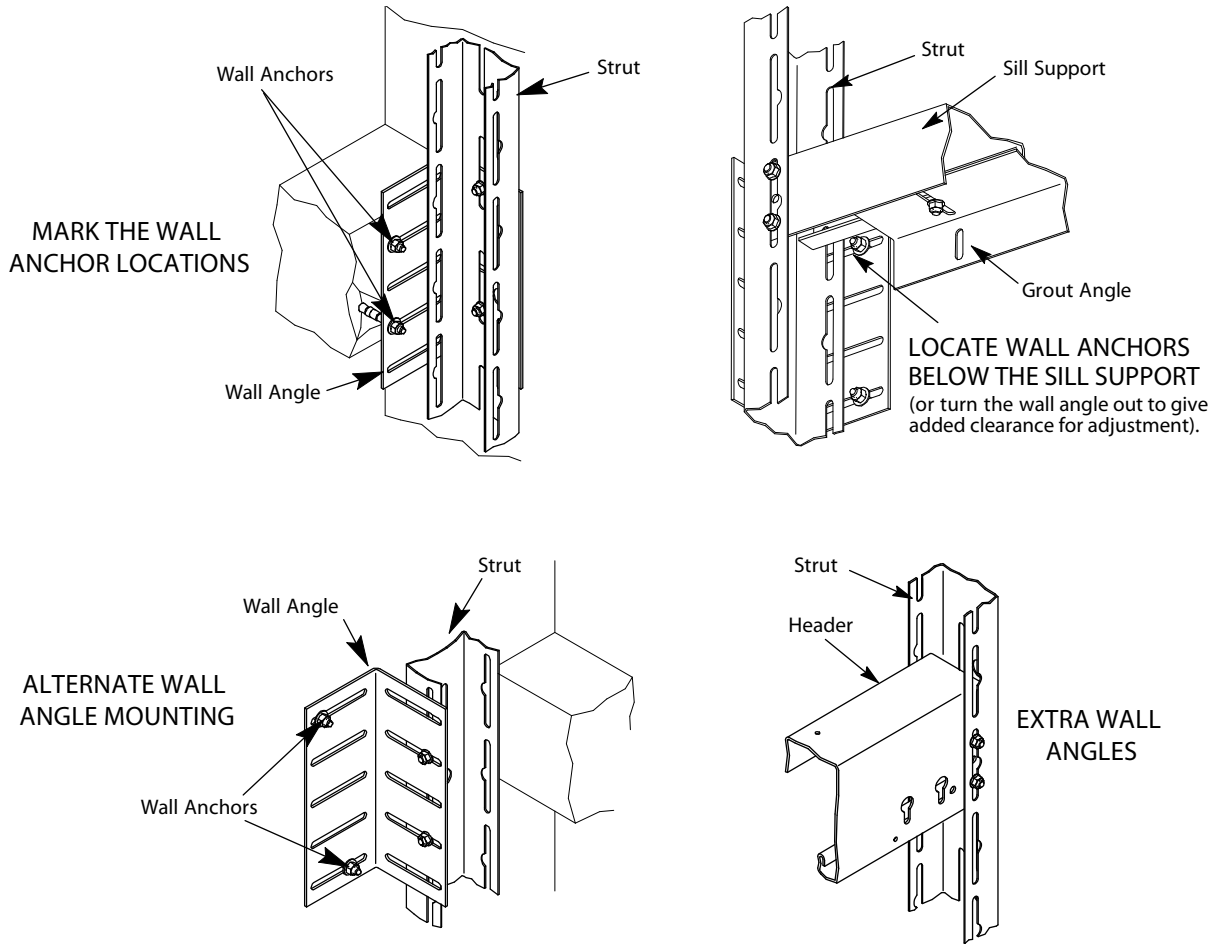

Figure 2 - Wall Angle Mounting
3. Hold an angle against the wall at an elevation no more than 6" below the rough floor level, and mark locations for at least two wall anchors. See Figure 2.